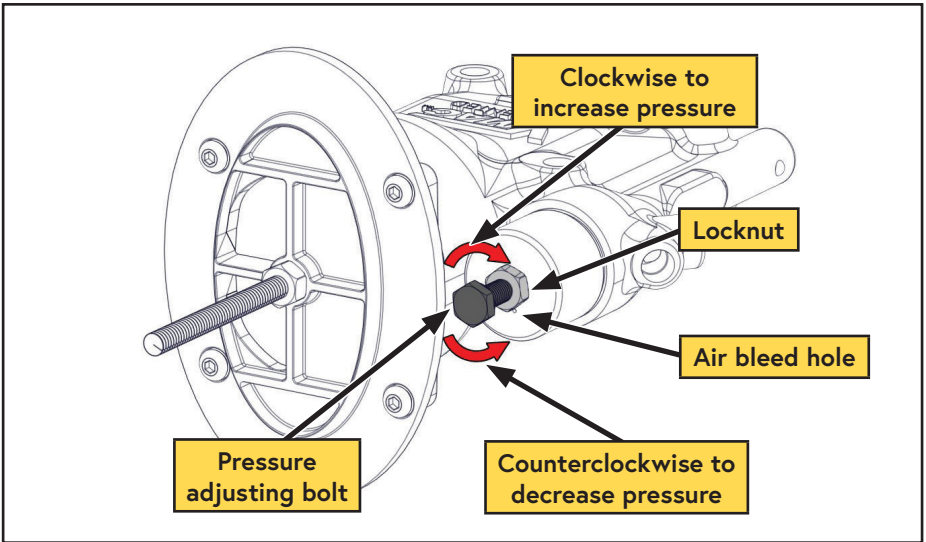

Figure 45 — Adjusting the inlet pressure regulator
- ☐ Loosen the locknut on the regulator (Figure 45).
- ☐ Rotate the pressure adjusting bolt as required to set the regulated pressure to 140 psi. (Figure 45).